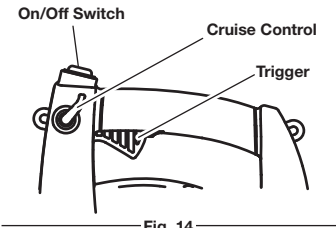

Fig. 14
NOTE: The unit should be started in idle. Do not squeeze the trigger until step 8 (Fig. 14).
NOTE: The unit should be started in idle. Do not squeeze the trigger until step 9 (Fig. 14).
10. Squeeze and hold the trigger, or press down the cruise control (Fig. 14), and allow the engine to warm up for 30 to 60 seconds.
2. Press and hold the On/Off switch in the OFF (O) position until the unit comes to a complete stop (Fig. 14).